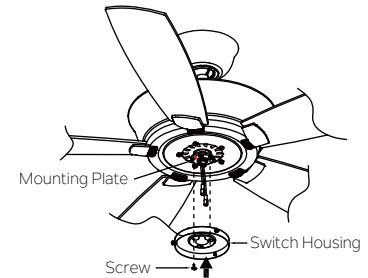

Fig. 21
Step 1. You will find one red label on the mounting plate. Remove this screw (near the red dot label) preinstalled on mounting plate and loosen the other two (do not remove). Place the two slot holes on the switch housing over the 2 screws previously loosened from the mounting plate. Rotate the switch housing until it locks in place at the narrow end of the key holes. Securely by tightening the 2 screws previously loosened and the one previously removed.(Fig. 21)